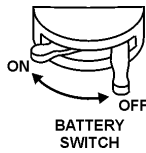

**Figure 42. Engine Enclosure Doors**
6. Close all engine enclosure doors (Figure 42).